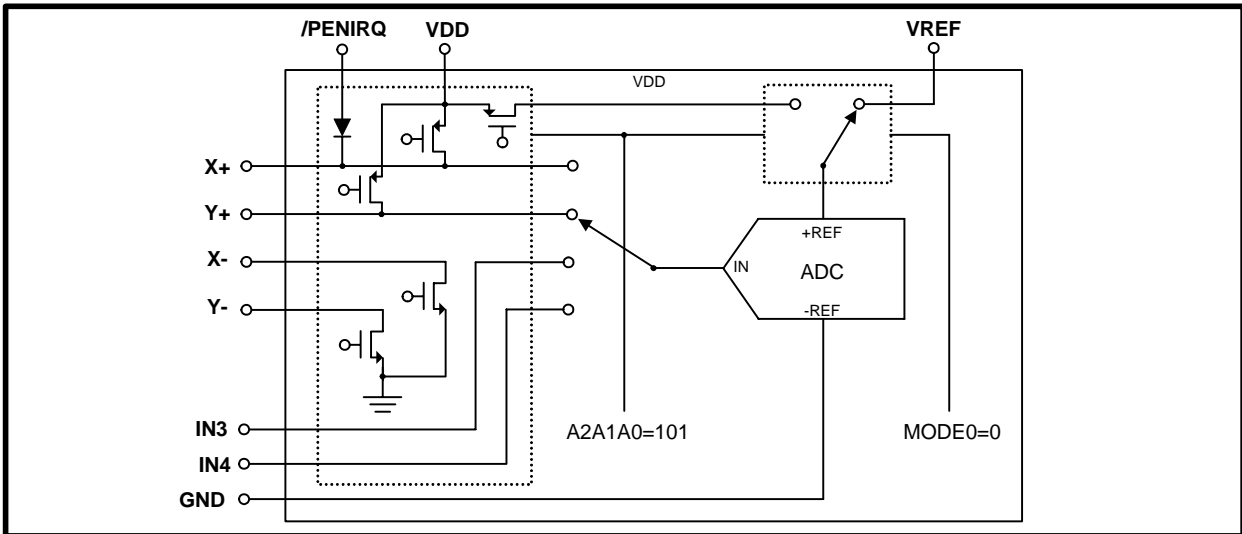

Figure 5. Diagram of Input Channel and Reference Input
UH7843Q/S/AQ/AS contains four channel inputs, a serial interface and low on-resistance switches for touch screen (see Block Diagram). The input to the converter is selected via the four-channel multiplexer as shown in Figure 5.
The next three bits on the control byte (A2,A1,A0) select the active input channel of the input multiplexer (see table III and Figure 5) and the touch screen drivers (X / Y switch).
The Mode Bits (MODE1, MODE0) set the resolution and the reference input of the analog-to-digital (ADC) converter. With Mode1 bit low (0), the following conversion will have 12-bit resolution. With Mode1 bit high (1), the following conversion will have 8-bit resolution. MODE0 bit sets the reference input of the ADC (see Reference Input section and Figure 5). Table IV shows detailed information of the Mode Bits.
UH7843Q/S/AQ/AS contains four channel inputs. X+ and Y+ inputs are for touch screen measurement. Two auxiliary inputs are IN3 and IN4. The input to the A/D converter is selected via the four-channel multiplexer. (See Block Diagram section and Figure 5.)
Table III shows the input channel configuration of UH7843Q/S/AQ/AS. The control bits are set via DIN pin. (See Control Byte section.) The selected channel is for A/D converter input. Please refer to Figure 5 for detailed input channel multiplexer. For measuring X+ and Y+, Y switches and X switches are turned on respectively.
UH7843Q/S/AQ/AS requires a reference input voltage source. The voltage difference between +REF and -REF (shown in Figure 5), in the range of 1V to +VDD, sets the analog-to-digital converter (ADC) input range. The full-scale analog input range of UH7843Q/S/AQ/AS is thus from 0V to VREF.